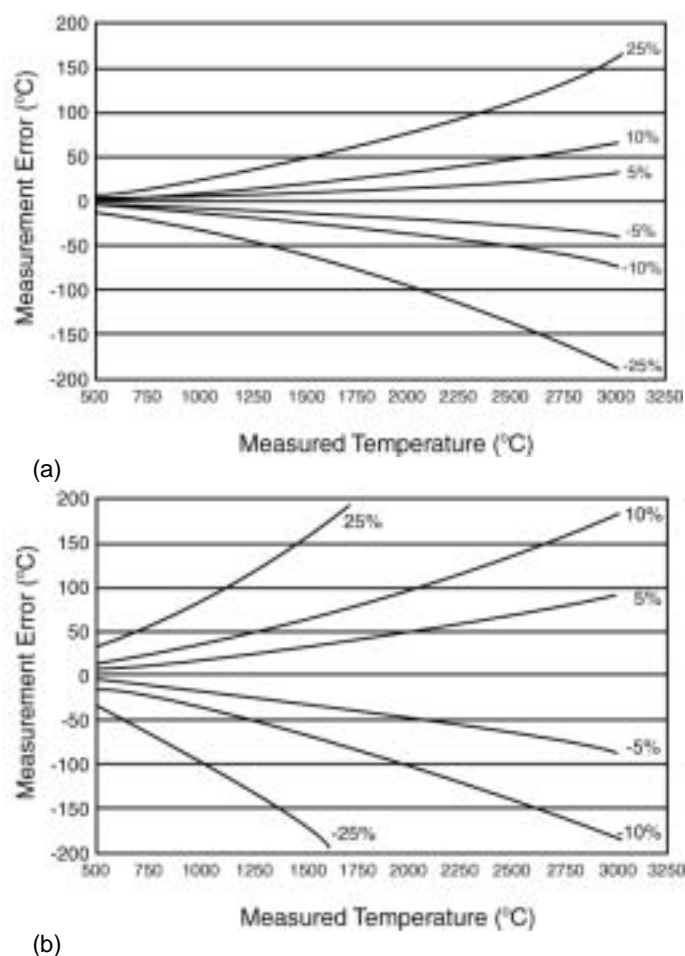

Figure 4: Temperature measurement error as a function of emissivity at (a) short wavelength,  $0.95\mu\text{m}$  and (b) long wavelengths,  $3.5\mu\text{m}$ .
*Strongly changing emissivities* – Temperature reading via radiation thermometry makes certain assumptions about emissivity (see Figure 4). Fluctuations in emissivity can cause the reported temperature to be inaccurate (e.g. during deposition of optical thin film or dielectric coatings). The selection of a shorter wavelength ( $<1.0\mu\text{m}$ ) pyrometer can partially mitigate this impact.
■ *Emissivity Compensation* – Pyrometers operate in accordance with Planck's law where thermal radiation is a function of emissivity( $\epsilon$ ). To the degree which a hot object does not act as a perfect black body radiation source ( $\epsilon = 1$ ), pyrometer's can yield inaccurate temperatures (Figure 4). Depending on the degree of accuracy required, this may necessitate some form of emissivity compensation. There are basically two strategies for dealing with emissivity compensation: